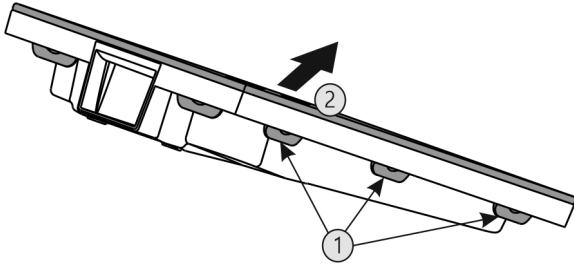

Fig. 39
- ▶ Press all lugs Fig. 39 (1) one after another and remove the cover Fig. 39 (2).